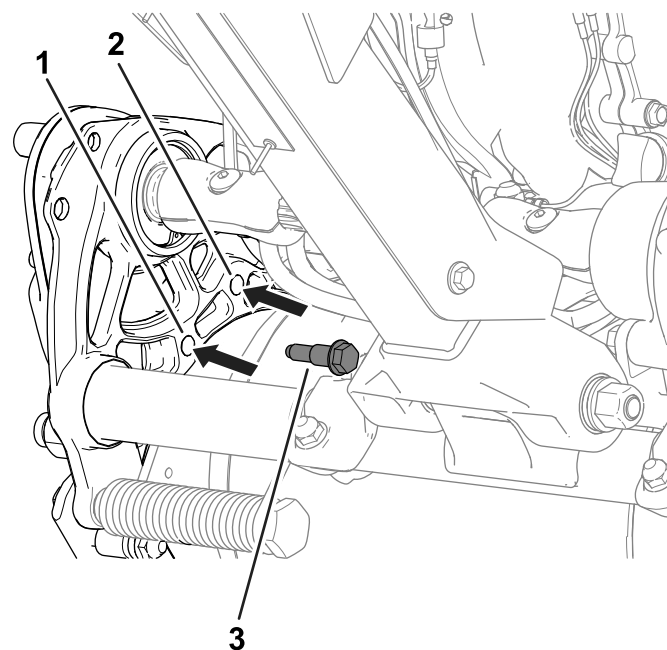

Figure 21
2. Remove the shoulder bolts (Figure 21) on each side of the machine that secure the drum drive housing to the chassis.
4. Use the previously removed shoulder bolts to secure the drive housing to the chassis (Figure 21).